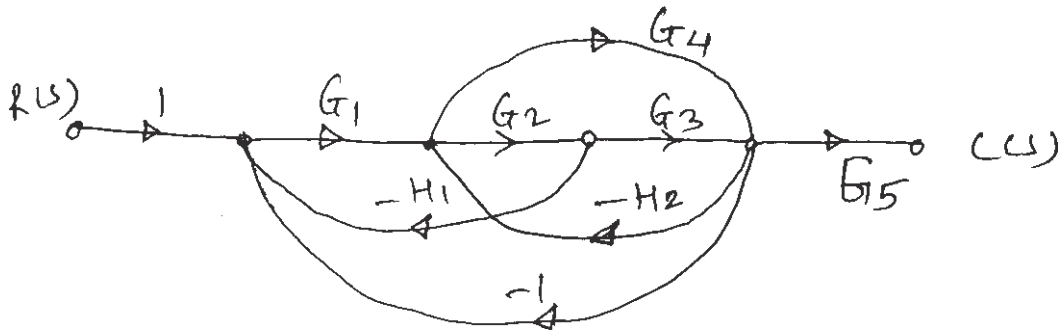

Fig.Q.2(a)
- Q2) a)** Obtain the transfer function  $\frac{C(S)}{R(S)}$  using Mason's gain formula for the system shown in Fig. Q.2(a) by signal flow graph. [8]